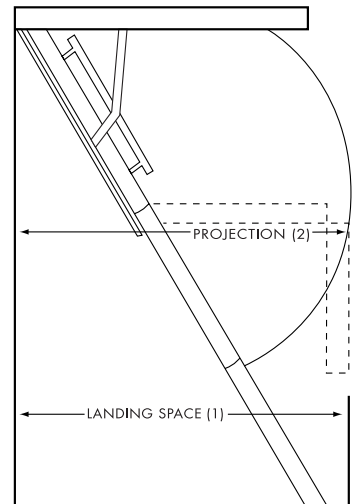

FIGURE 1 - WOOD STAIRWAYS
**B.** Allow sufficient area for a safe landing space at the bottom of the stairway. Be sure there is enough clearance for the swing of the stair as it is being unfolded to its full length (see FIGURE 1 for "landing space" and "projection"; match the ceiling heights shown on the packing carton with the same ceiling height in TABLE A to determine proper landing space and projection requirements).